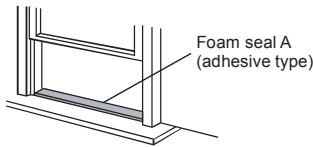

Fig.8
1. Cut the foam seal (adhesive type) to the proper length and attach it to the windowsill. See Fig.8